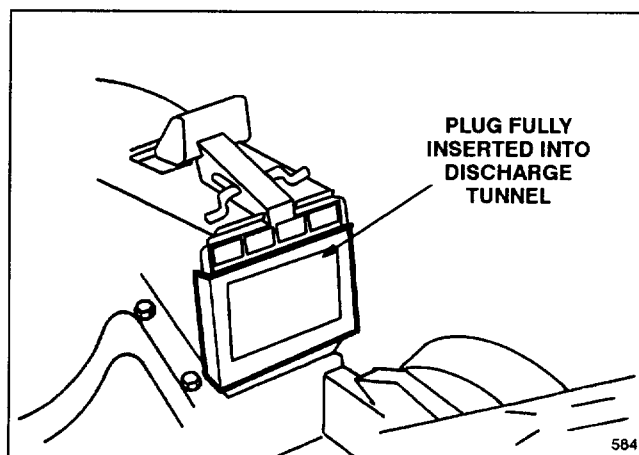

Figure 18
2. A rotating motion is required to insert the plug into the discharge tunnel (Fig. 18). Begin by rotating the plug slightly to the left to insert it into the dis-
3. Push the plug all the way in until it fits securely into the discharge tunnel (Fig. 18). Release discharge door handle.
4. To remove the plug, move the discharge door handle rearward (Fig. 18). Rotate the plug to the left while pulling it up and out of the discharge tunnel.